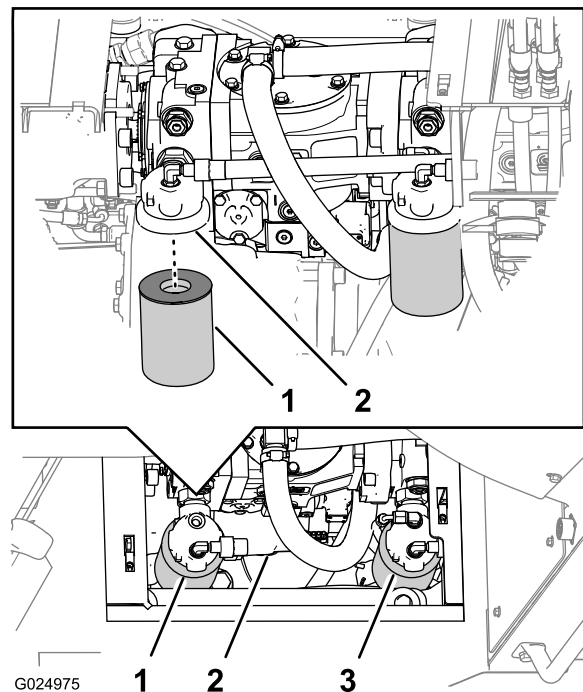

Figure 116
Note: You can access the hydraulic-charge filter from under the right side of the machine, behind the hydraulic reservoir (Figure 116).
2. Place a container under the hydraulic-charge filter (Figure 116).
3. Rotate the hydraulic-charge filter counterclockwise and remove the filter (Figure 116).